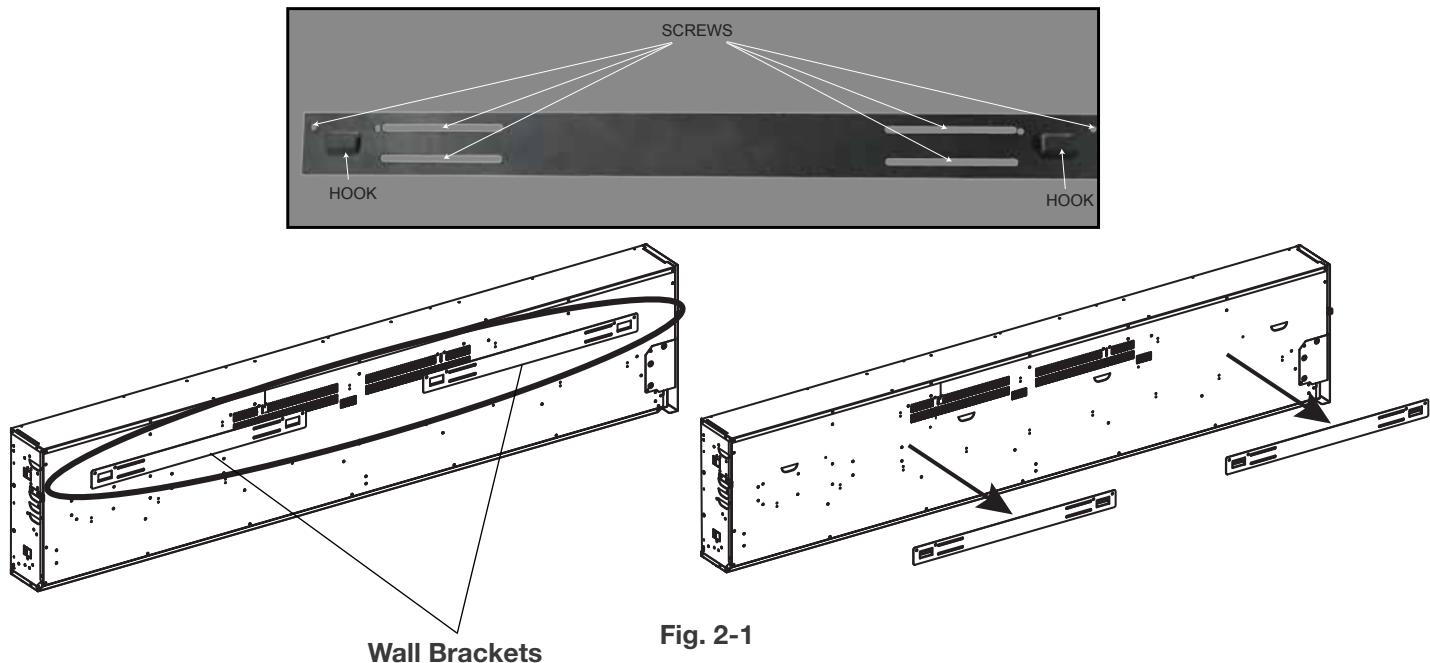

Fig. 2-1
3. Place appliance face down on a soft, non-abrasive surface. Remove the bracket from the back of the appliance by removing the screws (**Fig. 2-1**). Set the screws aside.